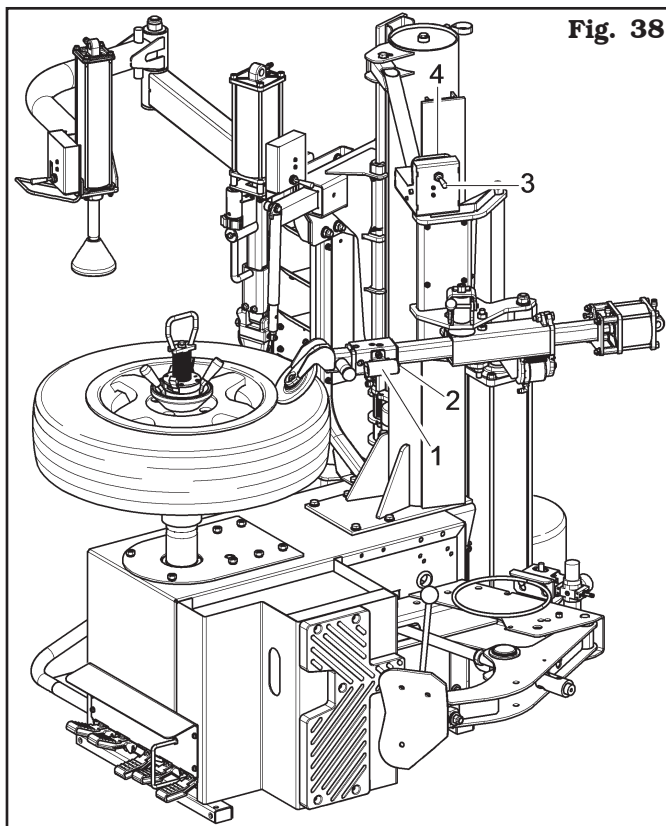

Fig. 38
2. determine the roller position on the rim diameter through the handle (**Fig. 38 ref. 1**) after the arm has been unlocked with the push button (**Fig. 38 ref. 2**) positioned on the handle itself. Lower the lever (**Fig. 38 ref. 3**) to bring the bead breaker roller only just below the rim width. Pull the rear lever (**Fig. 38 ref. 4**) until the bead breaker roller is introduced into the rim;